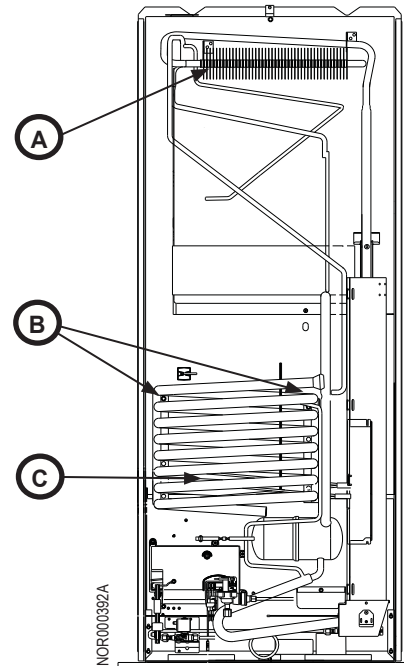

Fig. 10 - Cooling Unit Mounting Screws
1. Remove screws (1x or 2x) holding condenser (Fig.10,A) to upper rear of refrigerator. Lay aside.
2. Remove screws (Fig.10,B) (2x) holding absorber coils (Fig.10,C) to the rear of refrigerator. Lay aside.